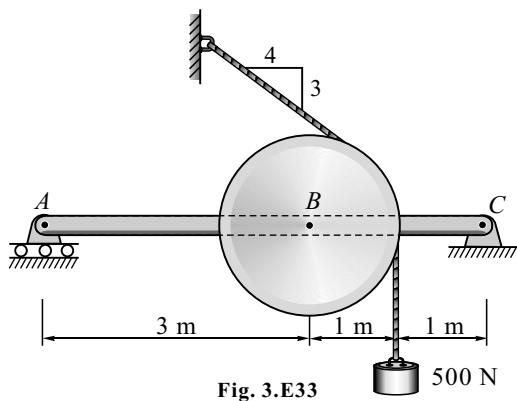

Fig. 3.E33
34. Determine the reactions at all the supports of the beam/ structure shown in Fig. 3.E34.